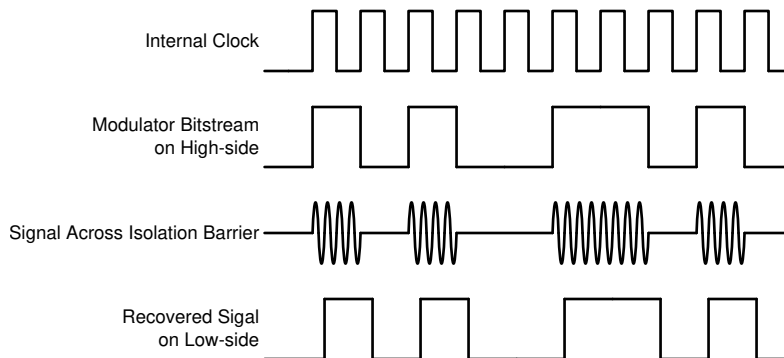

图 7-1. OOK-Based Modulation Scheme
The AMC1202 uses an on-off keying (OOK) modulation scheme, as shown in Figure 7-1, to transmit the modulator output bitstream across the SiO₂-based isolation barrier. The transmit driver (TX) shown in the Functional Block Diagram transmits an internally-generated, high-frequency carrier across the isolation barrier to represent a digital one and does not send a signal to represent a digital zero. The nominal frequency of the carrier used inside the AMC1202 is 480 MHz.